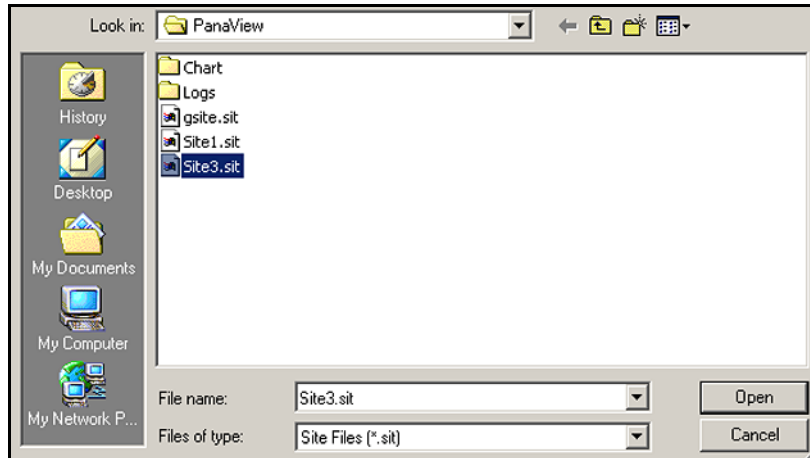

Figure 32: Site File Selection
2. Click on the *Save Site to Meter* button to open a screen similar to *Figure 32* below.
3. The *Site File Selection* screen (see *Figure 32* above) opens. Highlight a site file with the desired settings, and click [Open]. *PanaView* saves the site file in the meter with the new name and the desired settings.
3. A *Site File Selection* screen similar to *Figure 32 on page 106* opens. Enter the desired site file name (now with a .prt suffix) and click [Save]. *PanaView* displays a text version of the site, as shown in *Figure 34* below.